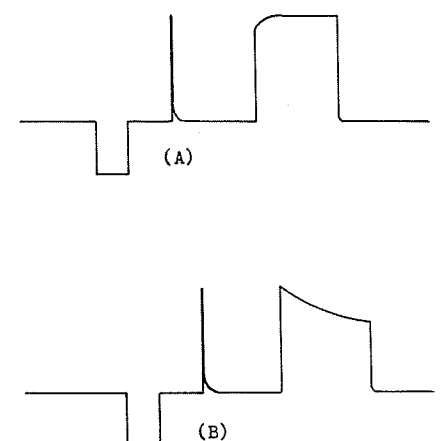

Figure 6. \sin^2 test signal showing: (a) short time constant undershoot, (b) long time constant overshoot.
1. Low-frequency distortion. This type of distortion has its greatest effect on the \sin^2 bar while little change is seen in the \sin^2 pulse. Depending on the time-constant of the circuit involved, the bar will show: undershoot, overshoot, or horizontal tilt. For example, a short time-constant undershoot is a leading-edge roll-off, as shown in Figure 6-a; while a long time-constant overshoot is a negative tilt (drop in amplitude from leading to trailing edge), as shown in Figure 6-b.